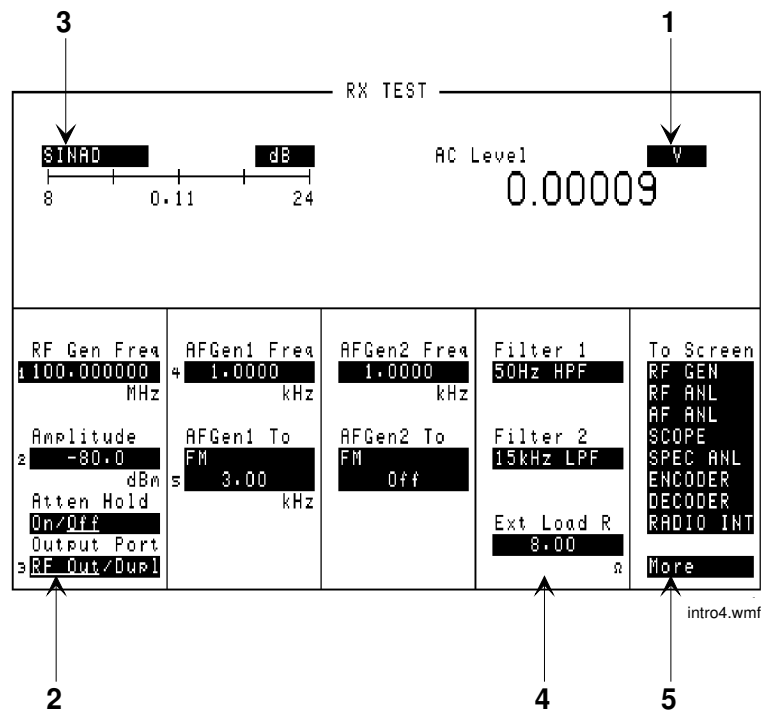

Figure 3 Different Types of Fields
- The front-panel Cursor Control knob (using the **To Screen** menu, see item 5 in Figure 3 on page 43)
Unit-of-measure can be changed to display measurements in different values or magnitudes. See item 1 in Figure 3 to see an example of a units-of-measure field.
Underlined immediate action fields provide a choice of two settings. See item 2 in Figure 3 to see an example of an underlined immediate-action field.
One-of-many fields display a list of choices when selected. See item 3 in Figure 3 to see an example of a one-of many field.
The **To screen** menu (see item 5 in Figure 3) is a variation of the one-of-many field.
Numeric-entry fields contain values for settings like External Load Resistance and RF Generator Frequency. See item 4 in Figure 3 to see an example of a numeric-entry field.